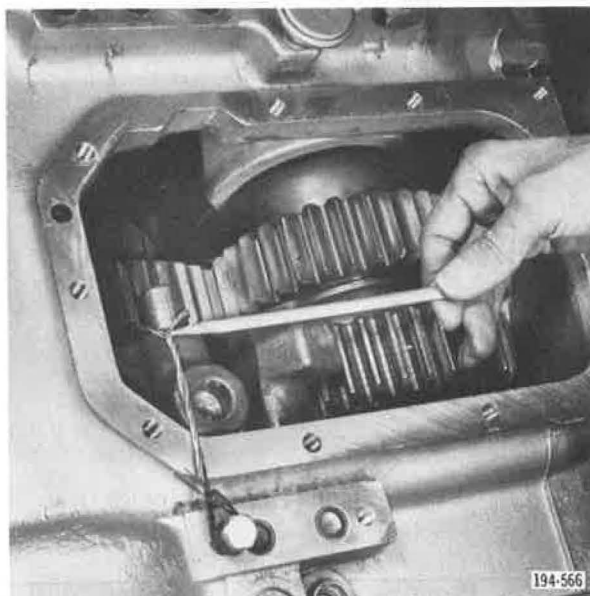

Figure 5-694. Wire Holding Shift Fork
30. Secure Direct/Hi-range shift fork in position, using a piece of wire. This will prevent it from sliding forward. See **Figure 5-694**.